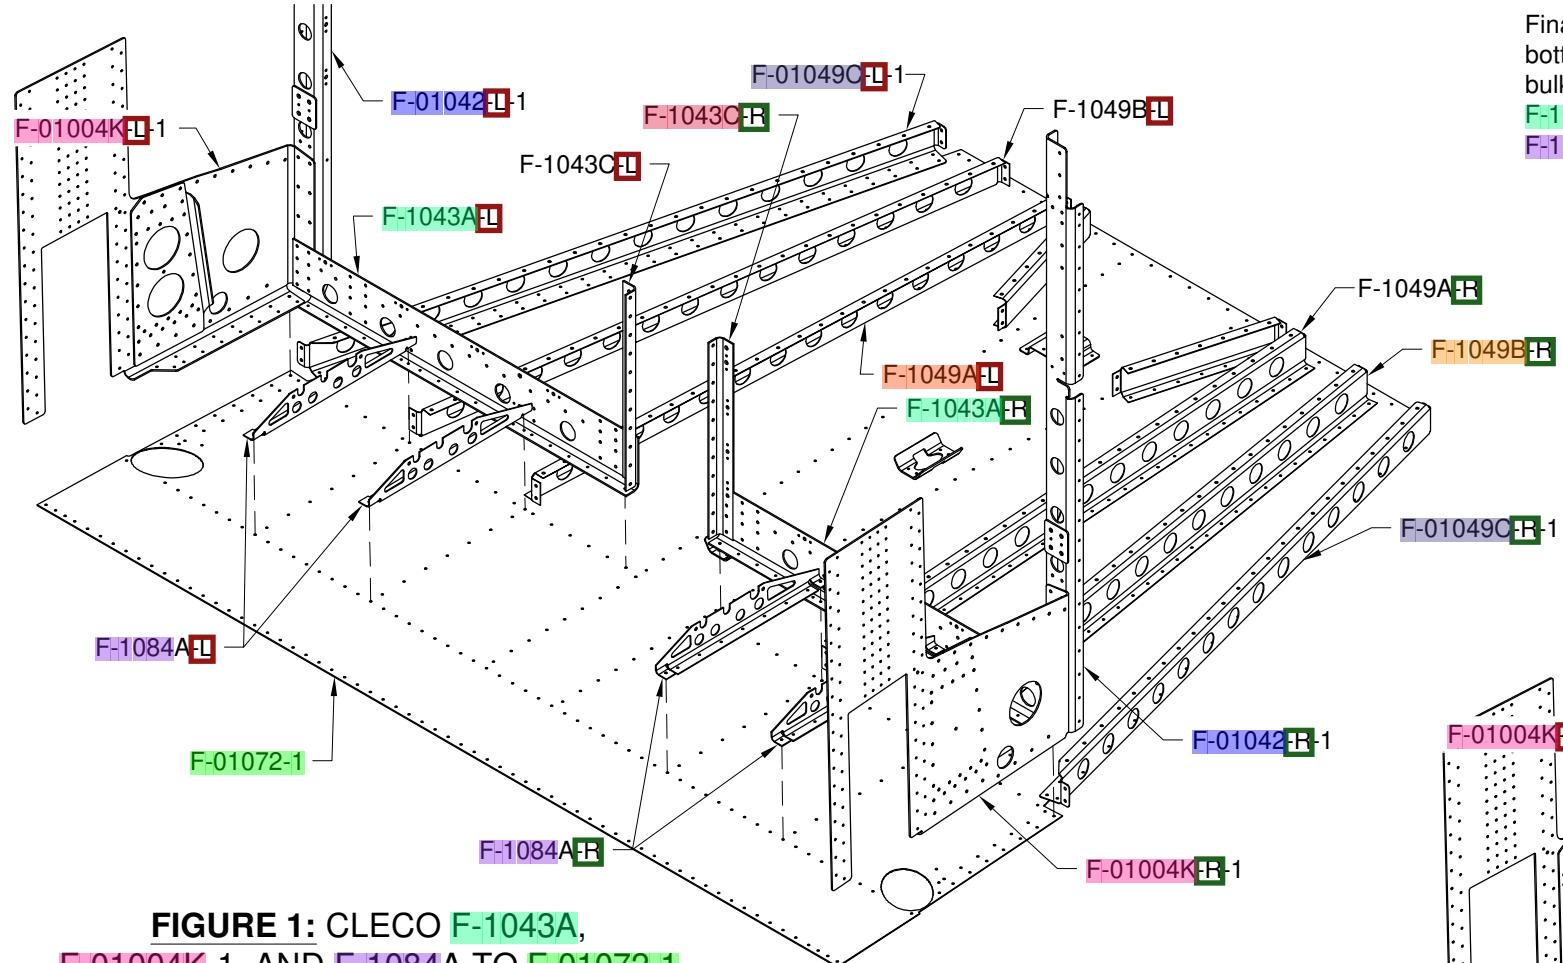

FIGURE 1: CLECO F-1043A, F-1004K-1, AND F-1084A TO F-01072-1
Step 1: Cleco the subassembly of the F-1043A-L Fwd Fuselage Bulkhead, F-1043C-L Attach Angle, F-1004K-L-1 Center Section Side Plate, and F-01042-L-1 Bulkhead Side Channel to the F-01072-1 Fwd Fuse Bottom Skin as shown in Figure 1.
Cleco the subassembly of the F-1043A-R Fwd Fuselage Bulkhead, F-1043C-R Attach Angle, F-01004K-R-1 Center Section Side Plate, and F-01042-R-1 Bulkhead Side Channel to the F-01072-1 Fwd Fuse Bottom Skin as shown in Figure 1.
Cleco the aft tabs of the F-1049A-L & R, F-1049B-L & R, and F-01049C-L-1 & R-1 Fwd Fuselage Floor Ribs to the fwd fuselage bulkheads. See Figure 1.
Cleco the F-1084A-L and F-1084A-R Systems Brackets to the F-01072-1 Fwd Fuse Bottom Skin and F-1043A-L and F-1043A-R Fwd Fuselage Bulkheads as shown in Figure 1. Do not insert a cleco into the single hole in the aft tab of the systems brackets.